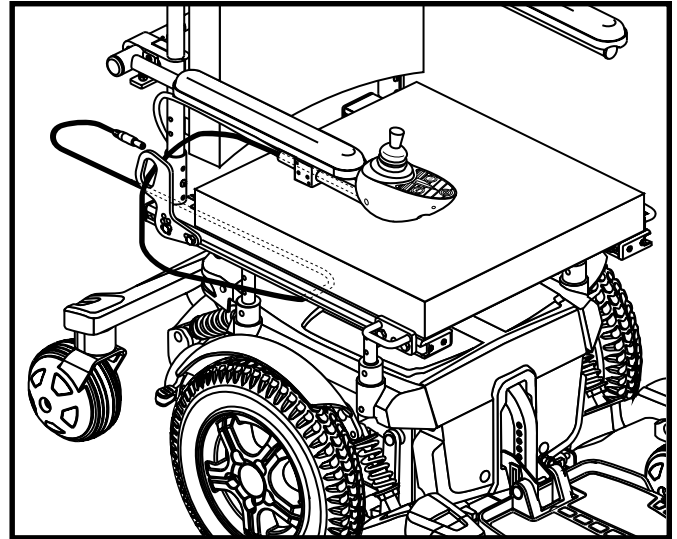

Figure 12. Remote Plus Controller Routed on a Synergy Seat
4. Install the controller and route the cable to the back of the power base. See figure 12 or 13.